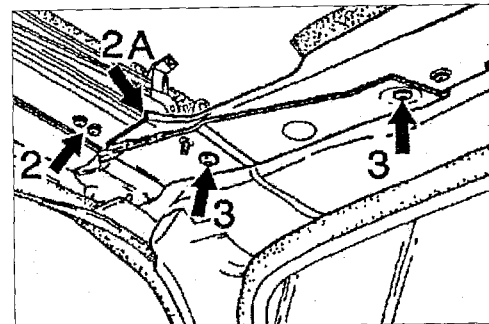

Figure 5
- Remove metal burrs from the cut-off area of the bracket (arrow 2A, Figure 5) and cover the exposed metal with corrosion paint
- Install new Torx bolts (arrow 2 and 3, Figure 5) part number 993 562 567 00 and torque to 5.5 Nm (4 ft lbs).